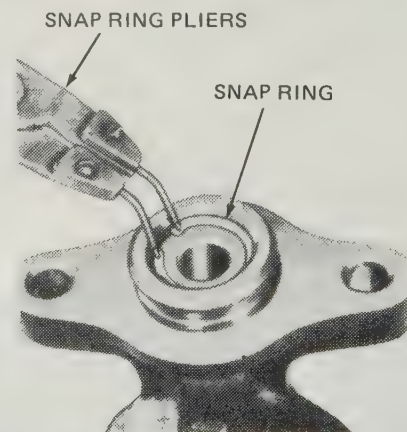

Fig. 9.15. Removing master cylinder snap-ring (Sec. 15)
- 5 Depress the primary piston and remove the snap-ring from the groove at the rear of the master cylinder bore (Fig. 9.15).